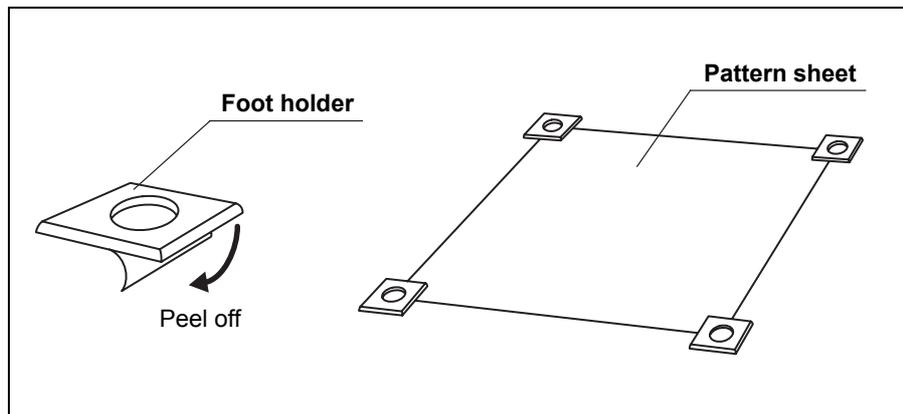

Figure 3.2
4. Peel the paper from the bottom of the foot holders and gently place them in position as shown in Figure 3.2.